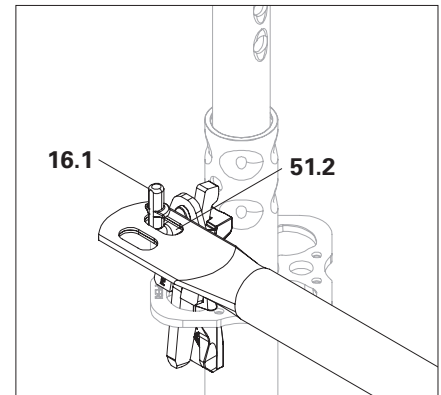

Fig. A5.08b
2. Align the slot (51.2) with the guardrail hook (16.1) and insert. (Fig. A5.08b)